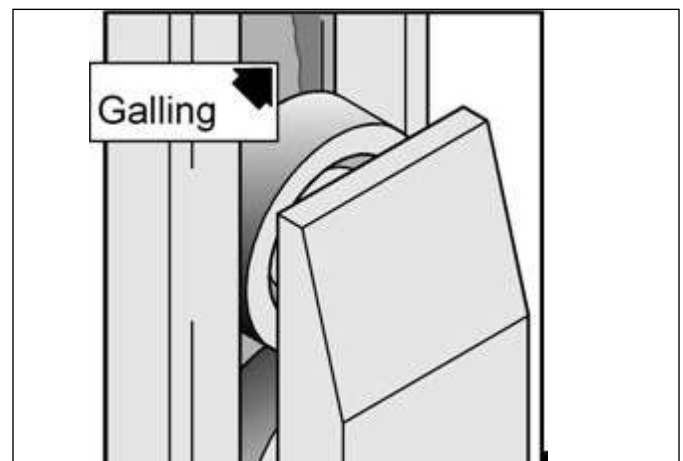

Figure 2-12: Channel Galling
5. Look for signs of galling where the rollers contact the rail. **See Figure 2-12.**